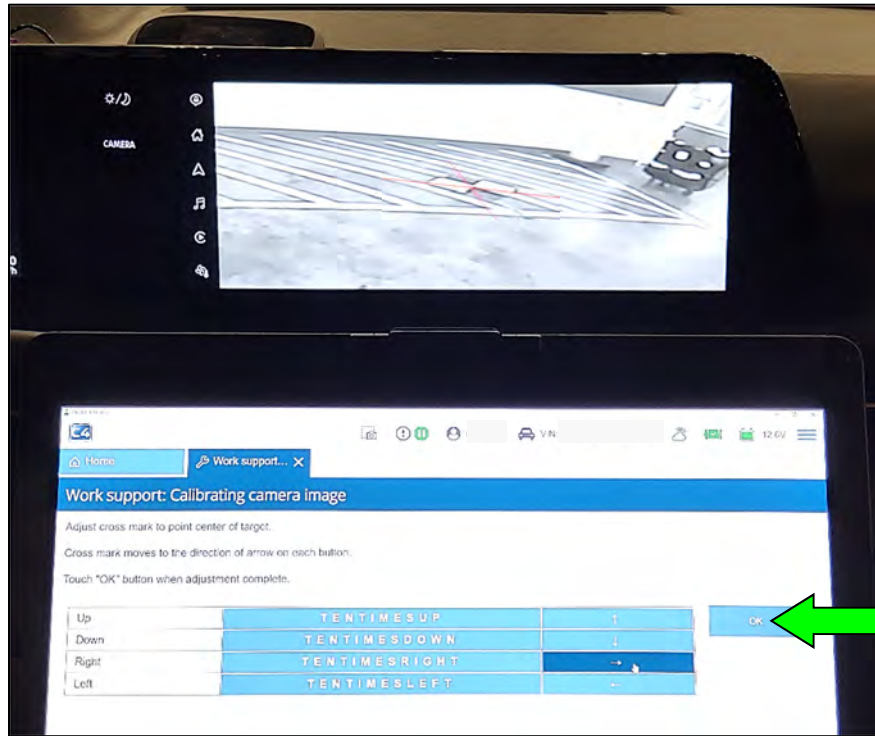

Figure 121
82. When the center of the red crosshair is in the center of the calibration target, select **OK** (Figure 121).